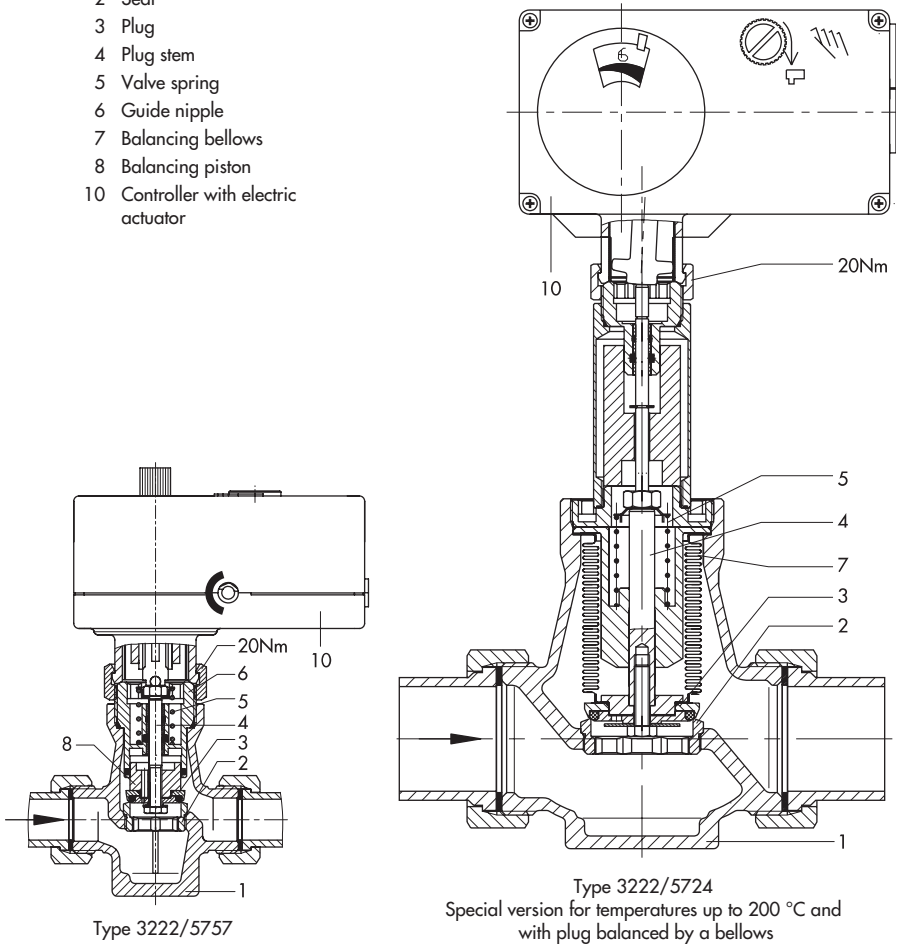

Fig. 1 - Type 3222/5757 and Type 3222/5724 Electric Control Valves/Controller with Electric Actuator
The process medium flows through the globe valve in the direction indicated by the arrow on the body. The position of the valve plug determines the flow rate over the cross-sectional area of flow released between the plug (3) and valve seat (2). The plug stem (4) with plug is connected with the stem of the actuator (10) by a force-locking connection. The valve is opened by the valve spring (5) following the retracting movement of the actuator stem. A special version is required for water above 150 °C and for steam (Fig. 1). The plug is moved by a change in the control signal acting on the actuator.